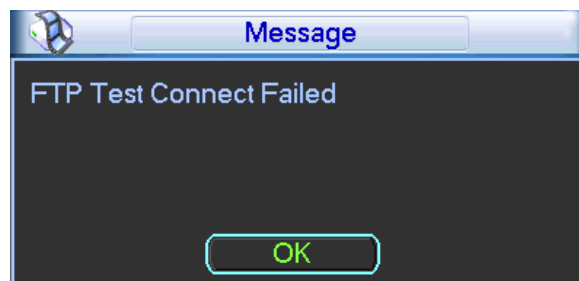

Figure 3-57
5. Click the **Test** button. The corresponding dialog box appears to show that the FTP connection is OK. See Figure 3-57.